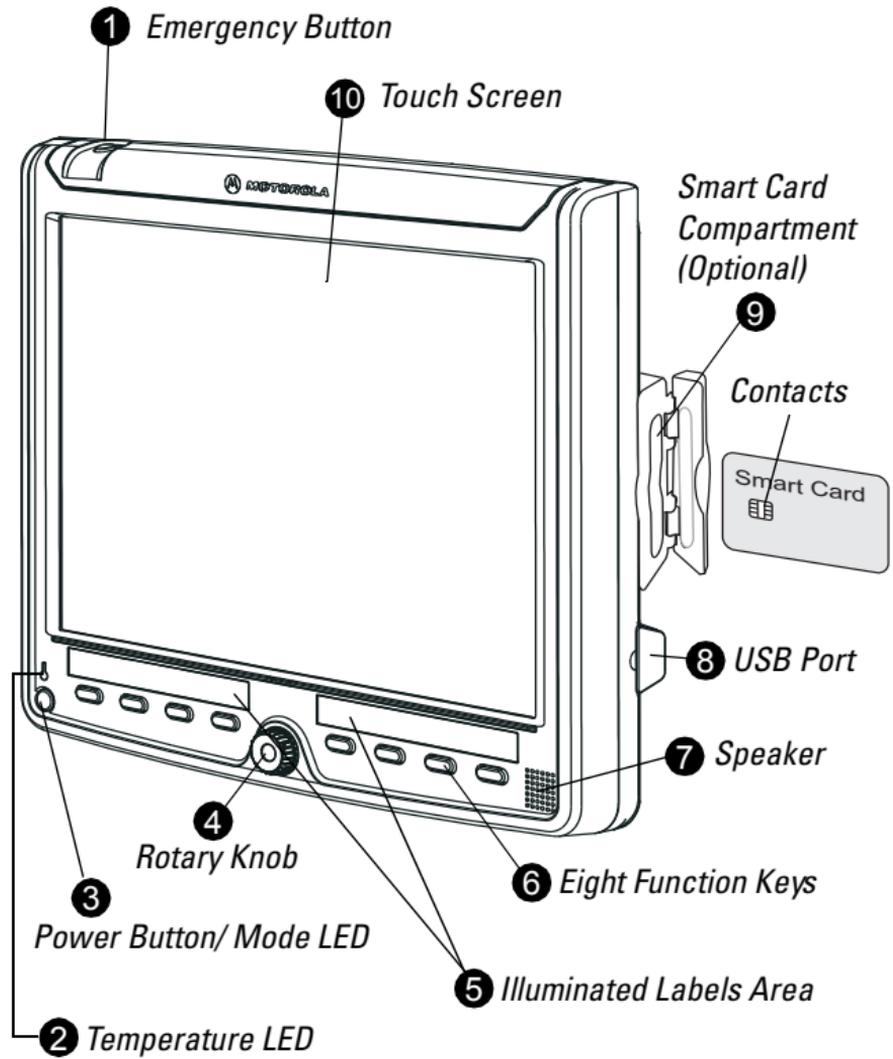

Figure 6. Display - Front and Right Side Components
Figure 6 shows the front-right components of the 12.1" Display.
2. Insert the Smart Card into the Smart Card Compartment (For contacts orientation, see Figure 6.)